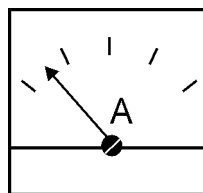

Figure 50. Ammeter (No load)
12. The ammeter (Figure 50) will indicate zero amps with no load applied. When a load is applied, this meter will indicate the amount of current that the load is drawing from the generator's alternator.